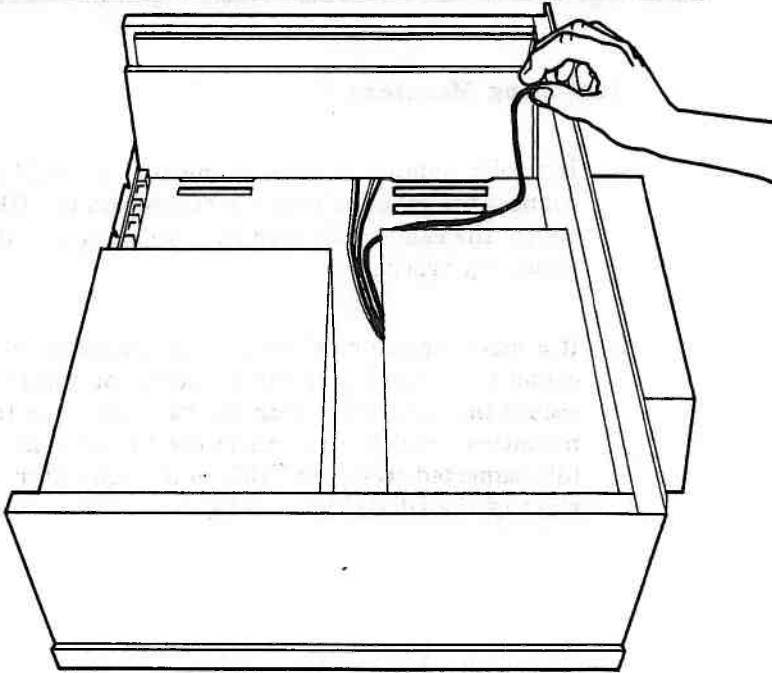

Figure 3-50. Connecting the 15-Volt Connector to the DEB
- b. If a monochrome monitor is to be connected to the DEB, connect the monitor to the connector on the DEB and secure the connection with the two screws on the mounting bracket. Reconnect the 15-volt connector (disconnected from the VDC) to the connector at the top right of the DEB (Figure 3-50).